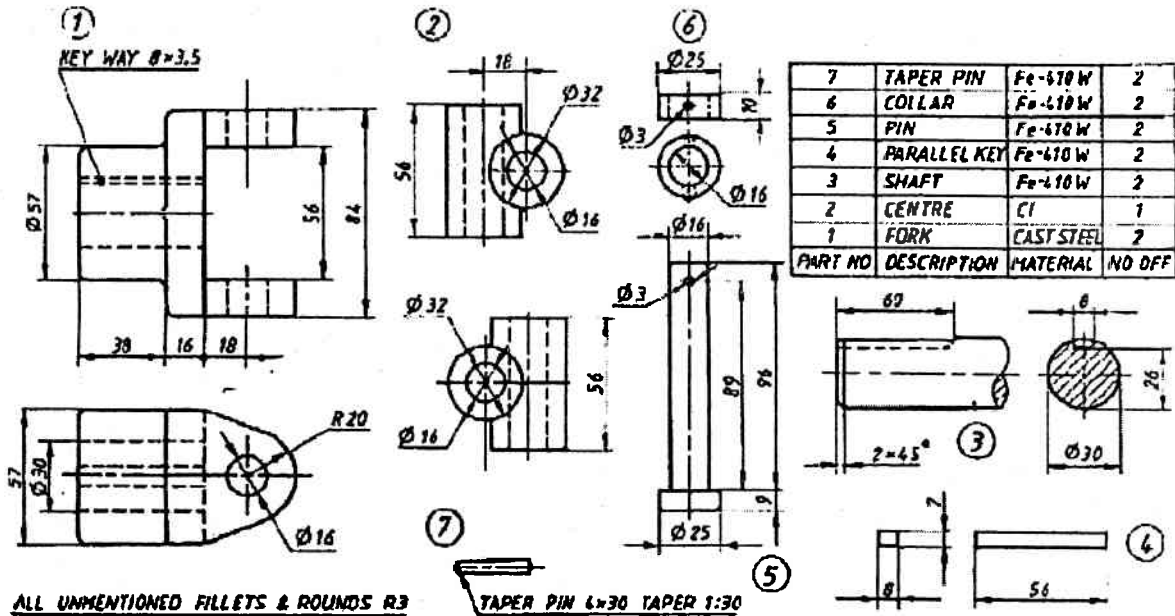

Fig. 2 Universal coupling
2. Figure 2 shows the components of Universal coupling. Assemble the parts and draw the front view in section and the top view.